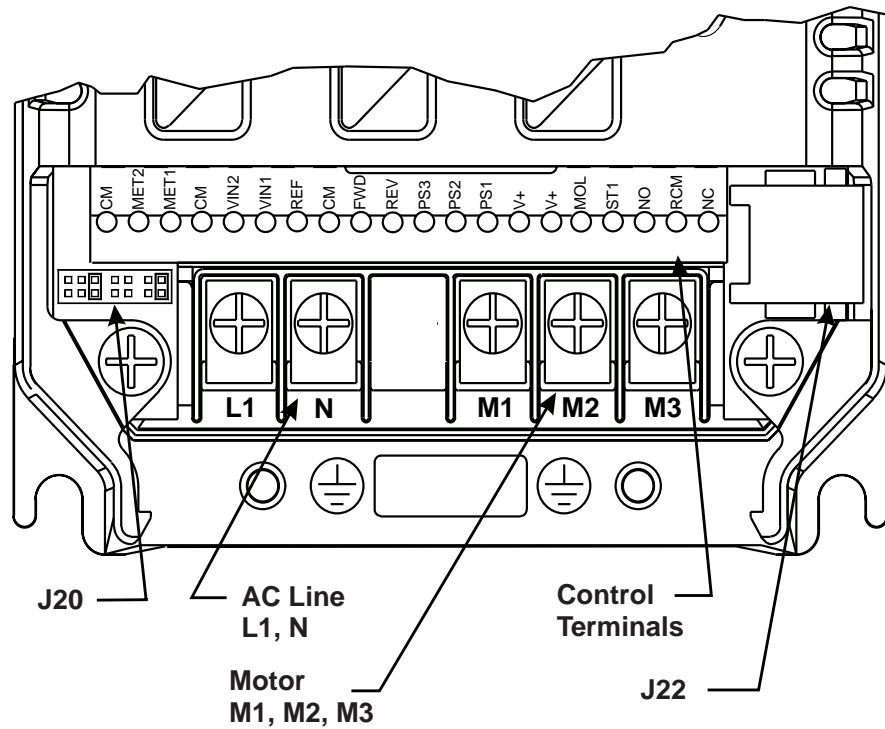
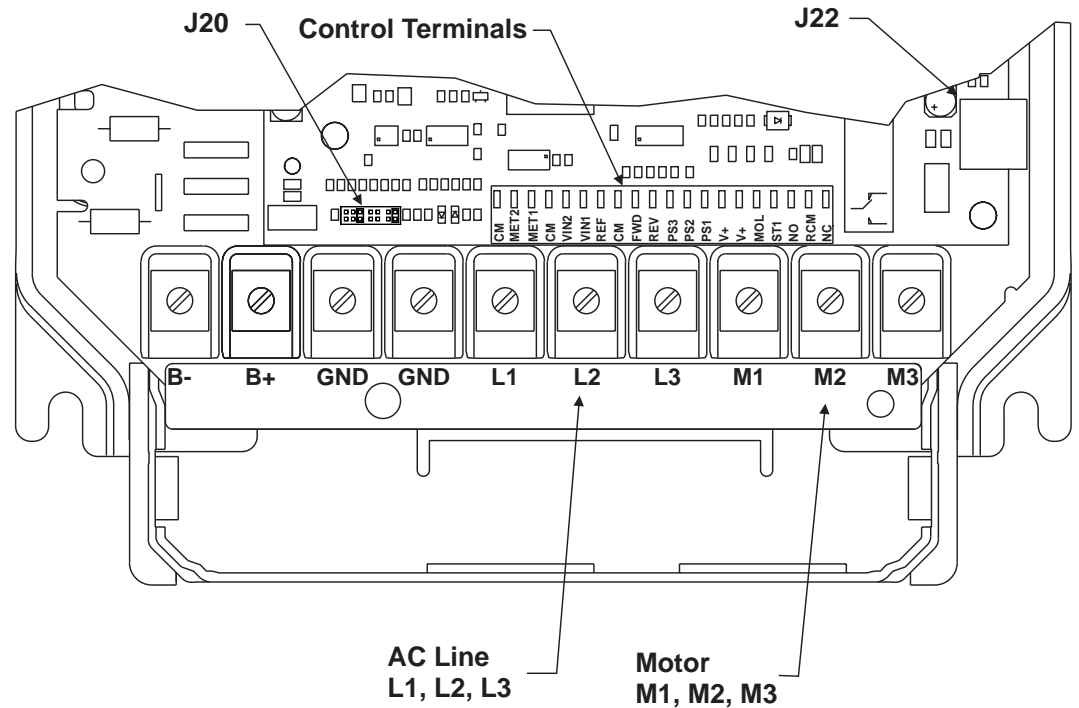

Figure 3.4 (1)
Figure 3.6 (1)
Two ground connections (GND) are provided on the end plate of 0.37 to 4.0 kW IP 21 models (see Figures 3.4 and 3.5), and along the power terminal strip of 5.5 to 15.0 kW IP 21 models (Figure 3.6). Ground connections can be made to the heat sink on chassis models. The ground screws must be connected to earth ground in accordance with the NEC.
The control terminals are located on the bottom edge of the inverter's control board. See Figures 3.4 to 3.6, page 26/27 and chapter 3.15. These terminals are available for use with external devices.
The ACP 3000 series micro-inverter has a 20 position control terminal block. Some functions are defined by the setting of jumper J20, while others are defined by programming. Refer to section 7.1 to 7.7 and Figures 3.4 to 3.6.
Jumpers J20, on the bottom left edge of the control module (see Figures 3.4–3.6), enable changeover of analog value specification and the switching logic of the digital control inputs. It has seven (7) positions and two movable shorting jumpers. One jumper selects the analog speed reference used and the second jumper selects the active state (High or Low) of the digital inputs. A pair of small needle nose pliers will prove useful for moving these jumpers. **REMOVE AC POWER AND WAIT FOR ALL INDICATORS TO GO OUT BEFORE CHANGING THIS JUMPERS.**